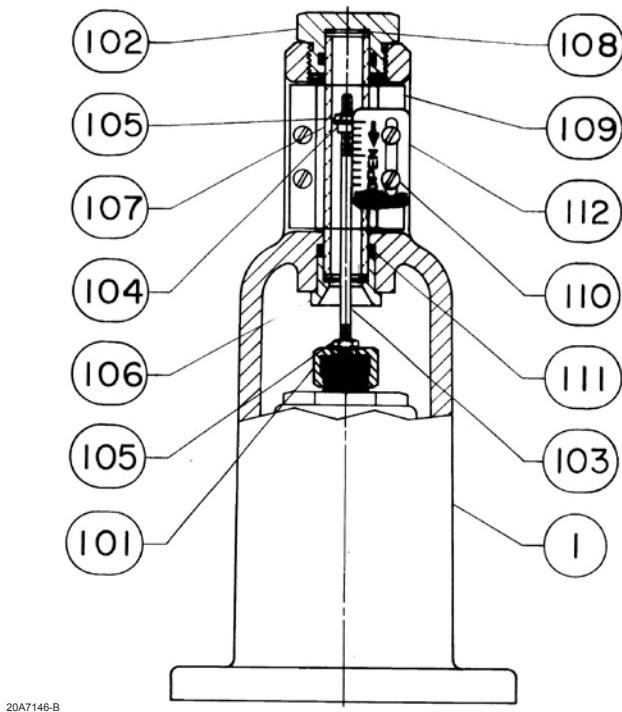

Figure 6. Travel Indicator Assembly
If the regulator has an indicator assembly, perform the following step carefully to avoid bending the travel indicator stem (key 103, Figure 6).
The O-rings and gaskets (keys 111 and 108, Figure 6) in the indicator assembly are static seals and need not be disturbed, unless they are leaking.
2. Remove the four cap screws (key 58, Figure 9) and lift off the spring case (key 1, Figure 9). Remove the travel indicator stem, if any, by unscrewing the indicator stem adapter (key 101, Figure 6).
14. Install a new spring case gasket (key 57, Figure 9), the spring case, and the four cap screws with 340 to 420 inch-pounds (38,4 to 47,5 N·m) of torque, making sure the indicator stem, O-ring, and gaskets (keys 103, 111, and 108, Figure 6) are installed if used.
Travel Indicator Assembly (Figure 6)
Actuator and Main Body Assembly (Figures 6, 7, 8, 9, 10, and 11)
Actuator and Main Body Assembly (Figures 6, 7, 8, 9, 10, and 11) (continued)